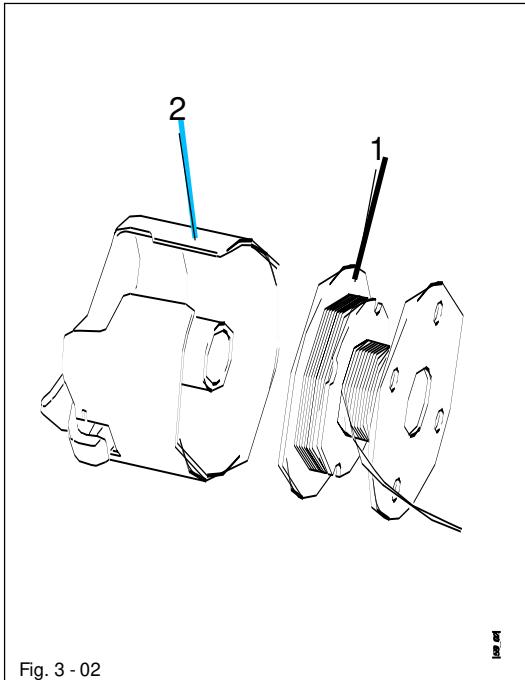

Fig. 3 - 02
- Insert bobbin 1 in the bobbin case 2 as shown in Fig. 3 - 02.